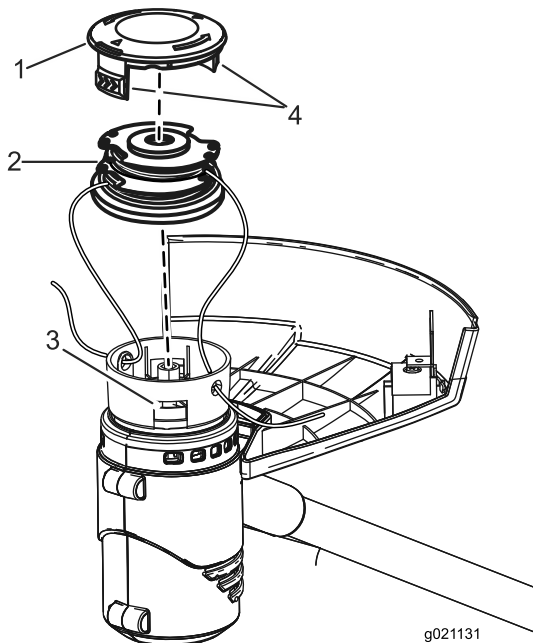

Figure 17
2. Push in the tabs on the side of the spool retainer (Figure 17).
2. Remove the spool. See Replacing the Spool (Figure 17).